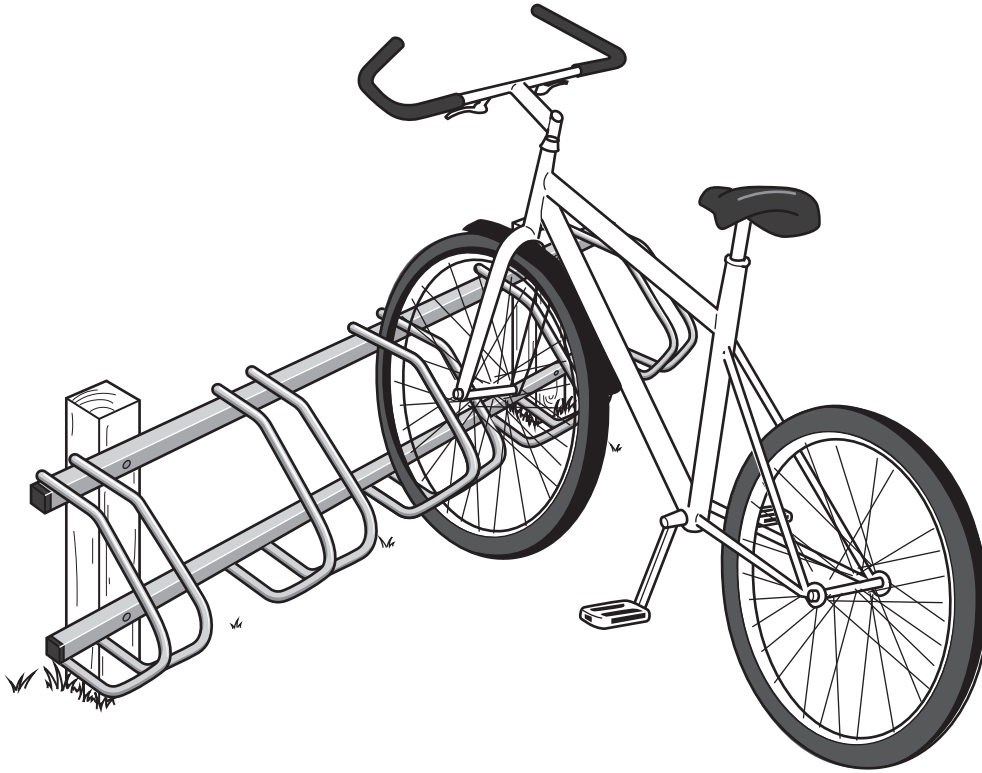

Fig. 4.1
- 4 Fig. 4.1 shows a cycle rack used in a public park.